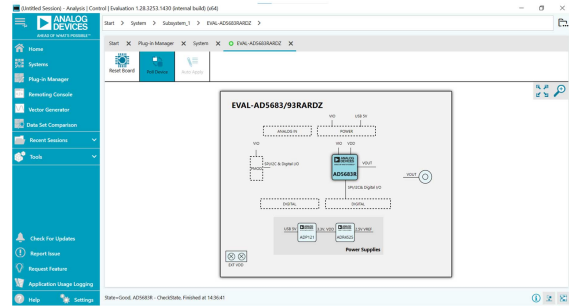

Figure 3. Board View of the EVAL-AD5683RARDZ or EVAL-AD5693RARDZ
3. Double-click the board plugin to open the board view shown in Figure 3.